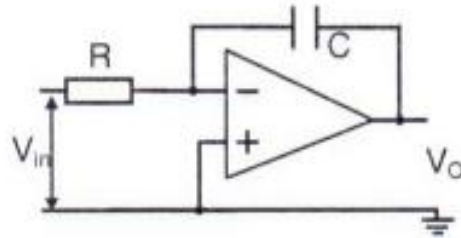

FIGURE 3
- 5.4 Consider FIGURE 3 below and answer the questions that follow: